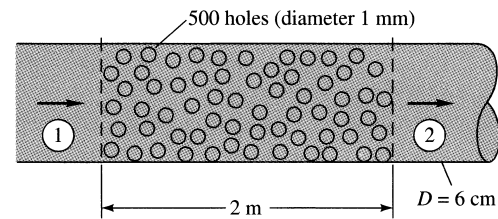

Fig. P6.147
**6.147** Air flows through a 6-cm-diameter smooth pipe which has a 2 m-long perforated section containing 500 holes (diameter 1 mm), as in Fig. P6.147. Pressure outside the pipe is sea-level standard air. If  $p_1 = 105 \text{ kPa}$  and  $Q_1 = 110 \text{ m}^3/\text{h}$ , estimate  $p_2$  and  $Q_2$ , assuming that the holes are approximated by thin-plate orifices. *Hint:* A momentum control volume may be very useful.